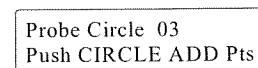

Figure 2-26 Probe Circle
- a. Press the  key to measure a circle. The message is displayed as in Figure 2-26. In this example, Forward Annotation was used and the number of required data points for the circle feature is 3 points. If Backward Annotation was used, no requirement would be noted but the number of points entered would be counted.